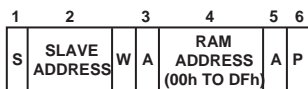

Figure 16a. Setting A RAM Address For Subsequent Read
1. To write a register address to RAM for a subsequent single byte read from the same address or block read or write starting at that address. This is illustrated in Figure 16a.